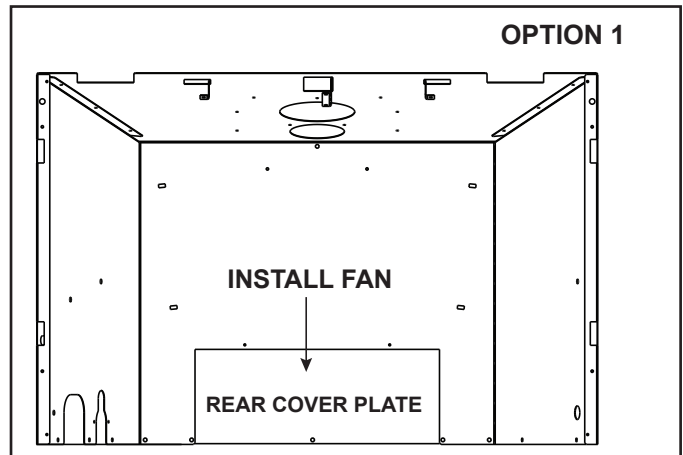

Figure 6.4 Cover Plate Removed (Option 1)
- Remove the five screws on the rear cover plate. See Figure 6.4.